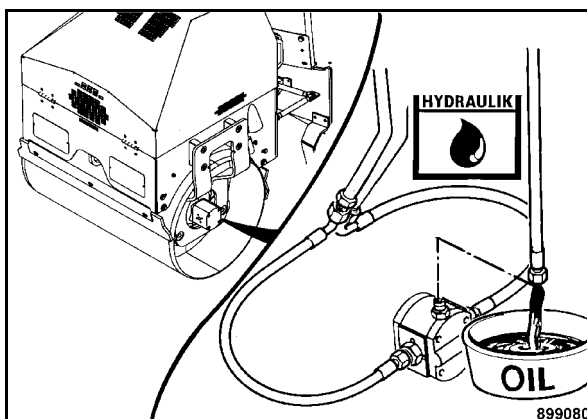

Fig. 98
- Unscrew the leak oil line from the vibration motor and catch the old oil (Fig. 98).